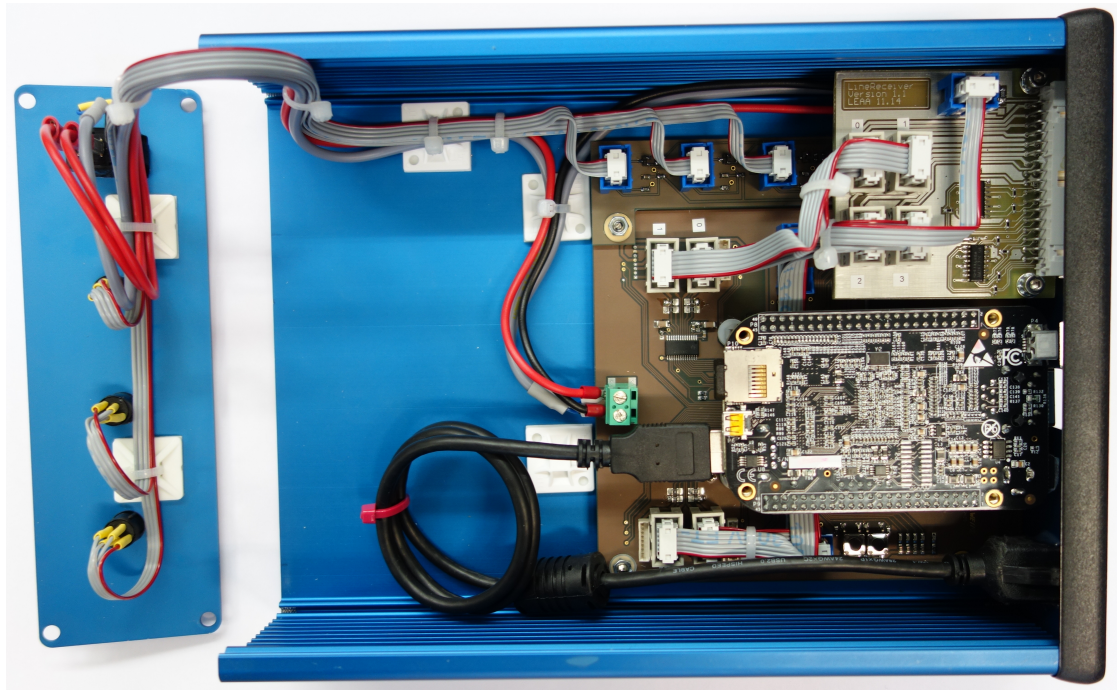

Figure 1.3: Remote case top view with BeagleBone Black mounted
5. Plug the BeagleBone on the headers in the middle of the main board as shown in figure 1.3.